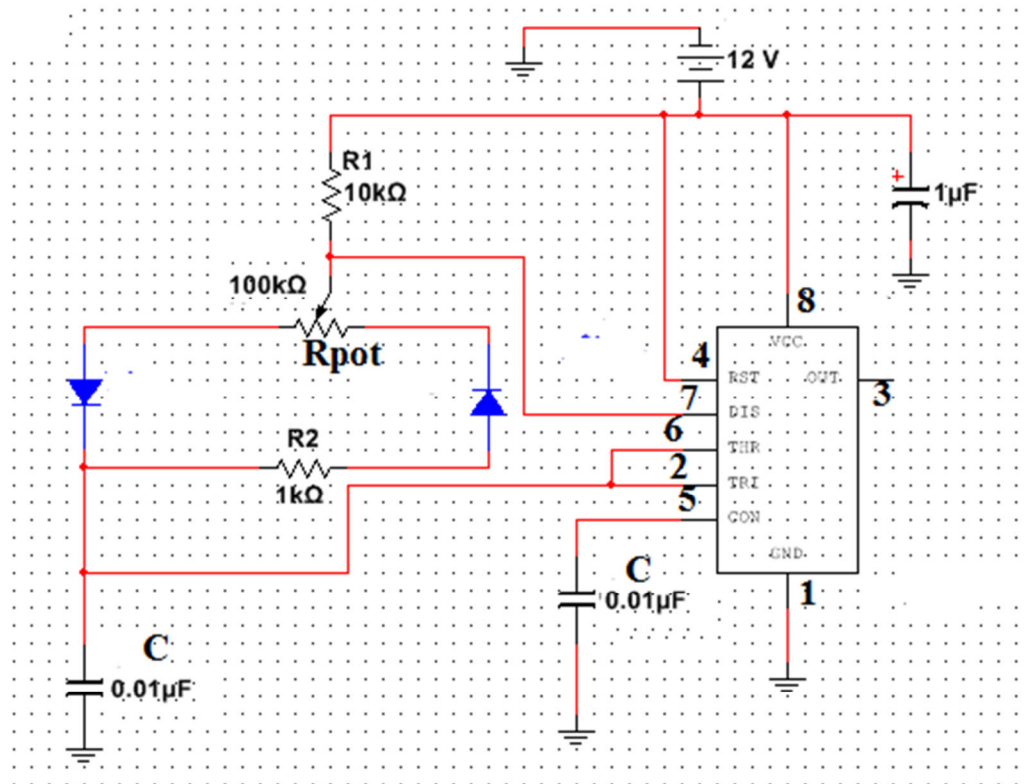

Figure 10.5: 555 Timer As Astable Multivibrator to Generate Fixed Frequency and Variable Duty Cycle Signal
- Implement the astable multivibrator circuit using 555 timer IC on breadboard, to generate switching signal as shown in Figure 10.5 on breadboard.